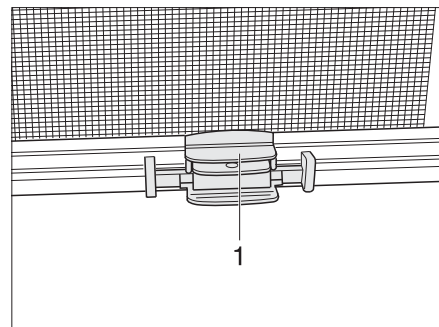

Fig. 48 Blind
- Grip the end rod (Fig. 48,1) of the roller insect screen in the middle and move it to the end rod of the blind.
- Hold the end rod (Fig. 48,1) of the roller insect screen and press the latch.